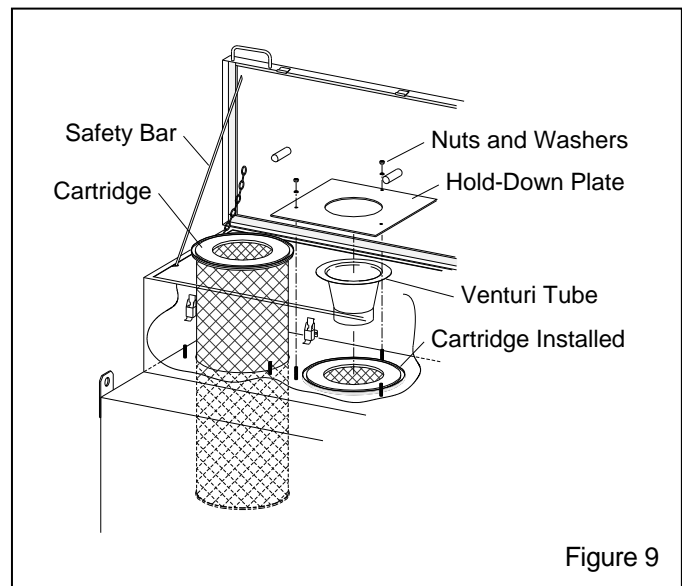

Figure 9
6.1.9 Lower the new cartridge into the opening as shown in Figure 9 until the cartridge flange rests on the cartridge plate.